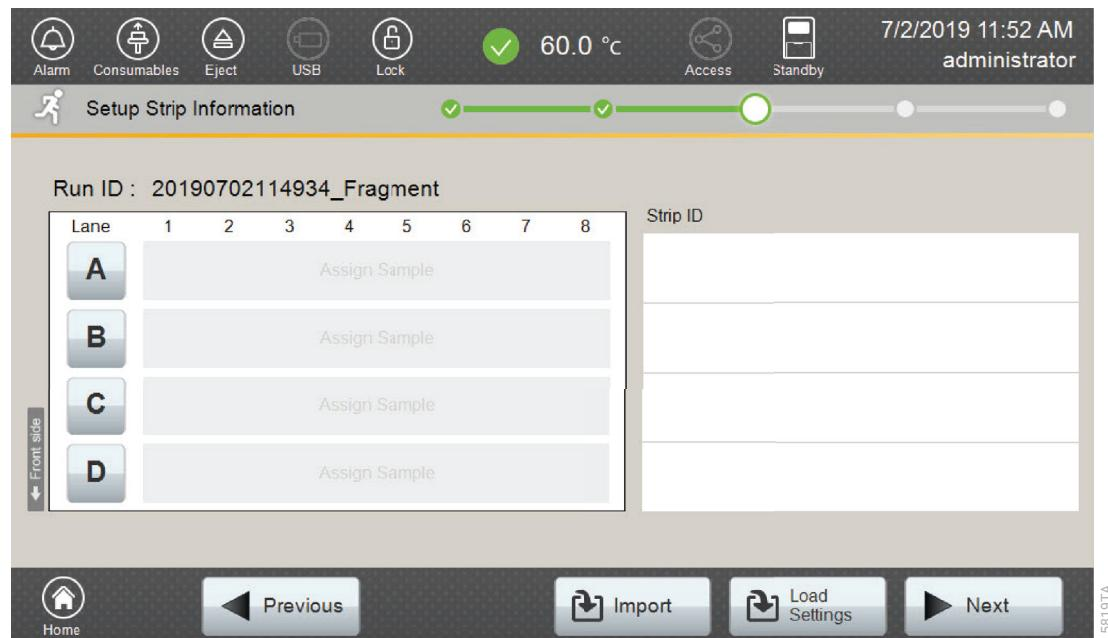

Figure 10. ‘Setup Strip Information’ screen.
1. Select **Next** on the ‘Setup the Strip’ screen shown in Figure 9. This will take you to the ‘Setup Strip Information’ screen shown in Figure 10.